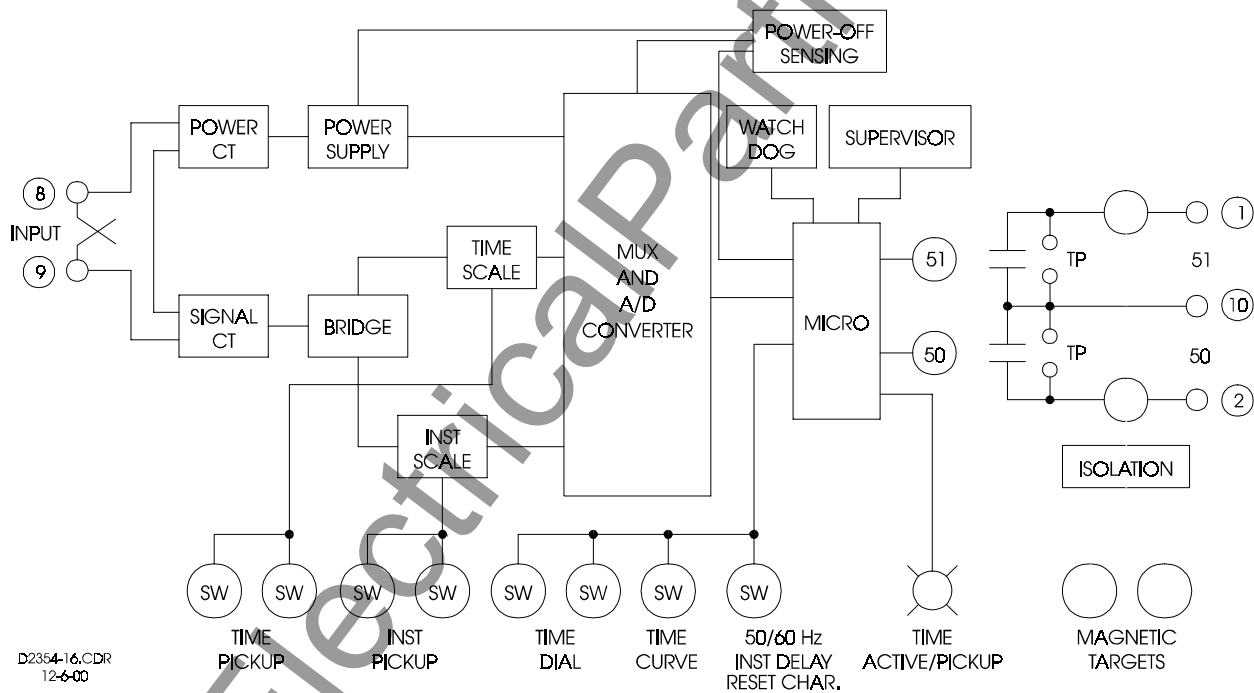

Figure 3-1. Functional Block Diagram
Single phase ac current from system current transformers (CT) is brought into the BE1-50/51B-219/226 Overcurrent Relay at terminals five and six. Refer to Figure 3-1 to follow the functional description. The input current is applied to internal power and signal CTs.